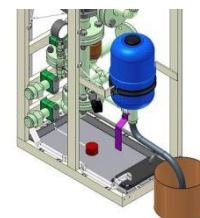

Figure 6.2-6
2. Place a five (5) litre jar under the valve (if the expansion vessel air nozzle or membrane is broken there might be up to 5 litres in the vessel).
3. Turn the lever (marked violet in Figure 6.2-6) on valve V160 90° so that it points down. This will close off the primary circuit and therefore only the liquid in the expansion vessel will come out. (There is line mark in the end of the stem, where you can also ensure the right position of the 3-way valve. This mark shows the open flow direction.)